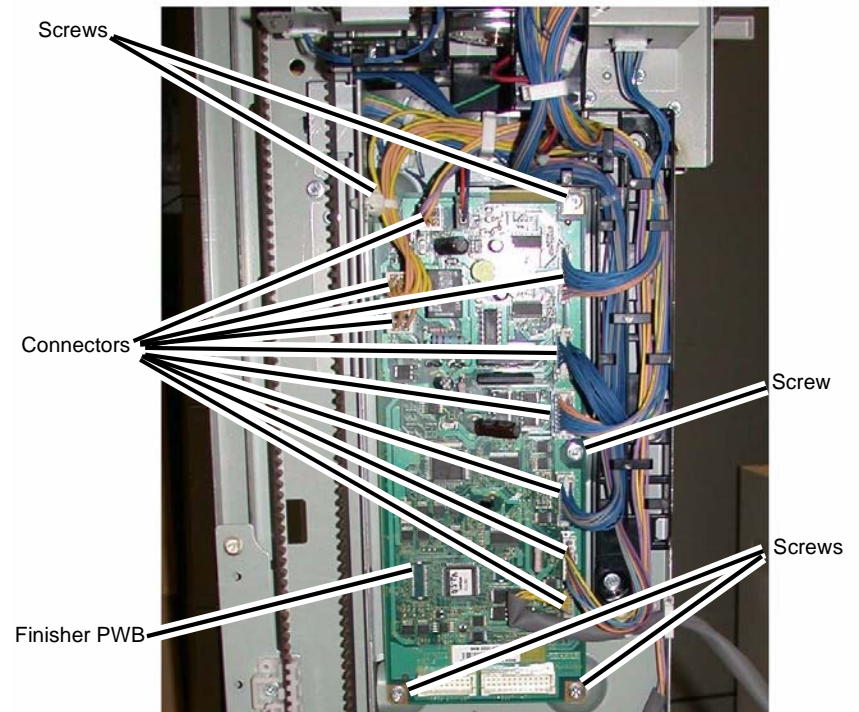

Figure 1 Removing the Finisher PWB
3. Remove the Finisher PWB (Figure 1).